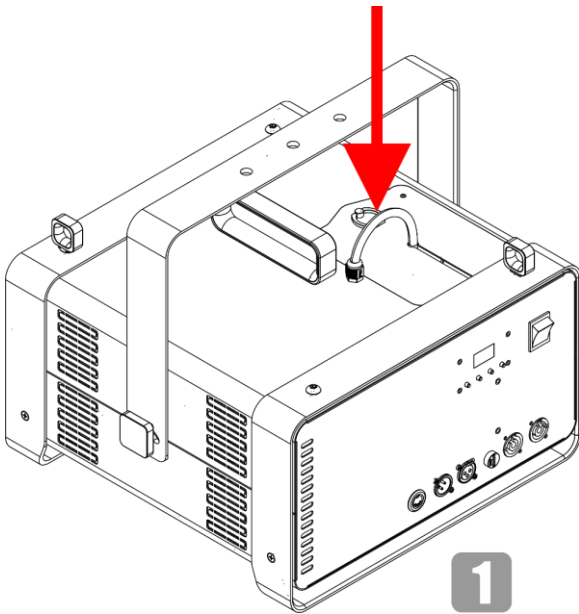

Fig. 21
- 01) Lift the small ring on top of the device to open the service lid, as shown in Fig. 21.